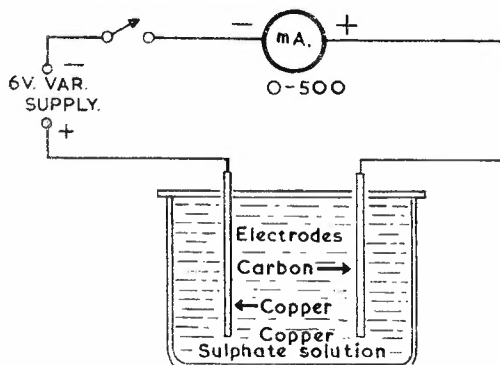

FIG. 1.
STEP 2. Connect the circuit as shown in Fig. 1 with the copper electrode connected to the positive polarity of the 6 volts supply.